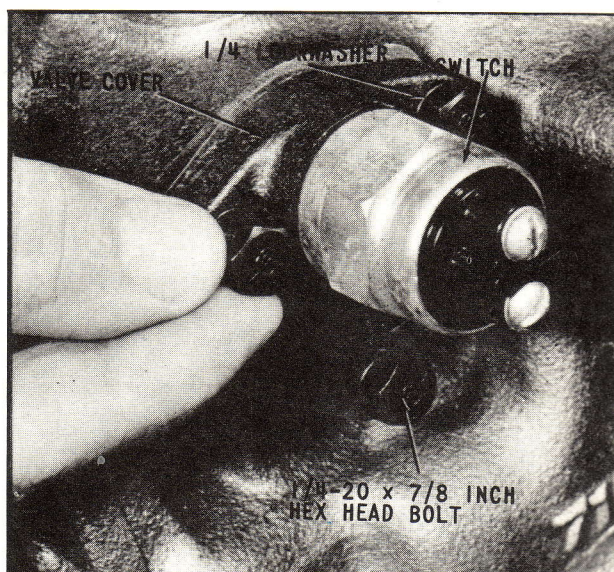

Fig. 84 Neutral Switch Correctly Assembled
3. Assemble valve cover and neutral switch with neutral switch located between two (2) top 1/4-20 bolts, as shown in (Fig. 84). Use the three (3) 1/4-20-7/8 inch long hex head bolts provided in neutral switch kit. Tighten hex head bolts to recommended torque of 8 to 11 pounds-feet and assemble starter solenoid wires to switch.